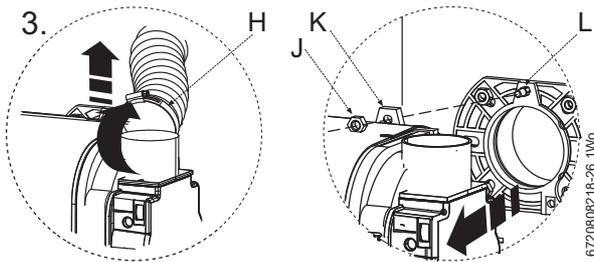

Fig. 39
3. Unscrew to loosen the retaining ring (H) that secures the flexible air supply tube to the burner and pull the flexible air supply tube free from the burner (see figure 39).